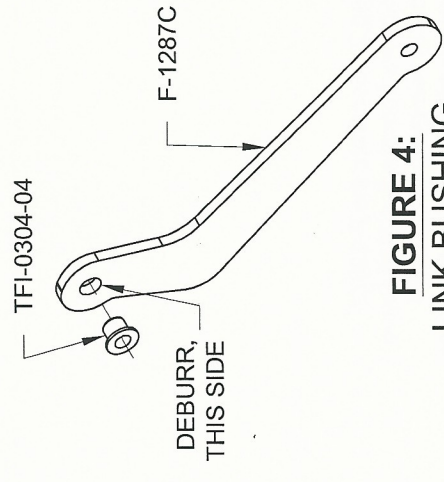
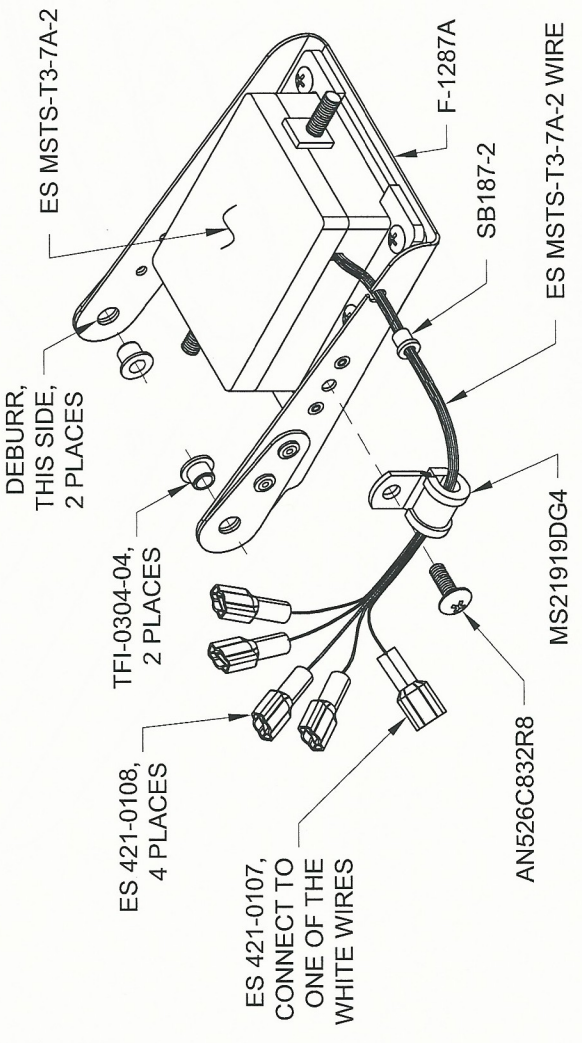

FIGURE 4:
FIGURE 6:
- Step 8: Deburr the F-1287C Link called out in Figure 4. Deburr the F-1287A Servo Tray called out in Figure 6.
- Step 9: Insert the polymer bushing into the F-1287C Link as shown in Figure 4. Insert the polymer bushings into the F-1287A Servo Tray as shown in Figure 6.
- Step 11: String the ES MSTST-3-7A-2 Pitch Trim Servo wire through the called out snap bushing and insert the snap bushing into the F-1287A Servo Tray as shown in Figure 6.
- Step 12: Crimp a male spade connector to one of the white wires of the ES MSTST-3-7A-2 Pitch Trim Servo wire. Crimp female spade connectors to each remaining trim wires as shown in Figure 6.
- Step 14: String the ES MSTST-3-7A-2 Pitch Trim Servo wire into the cushioned clamp, then temporarily install the cushioned clamp to the F-1287A Servo Tray as shown in Figure 6.